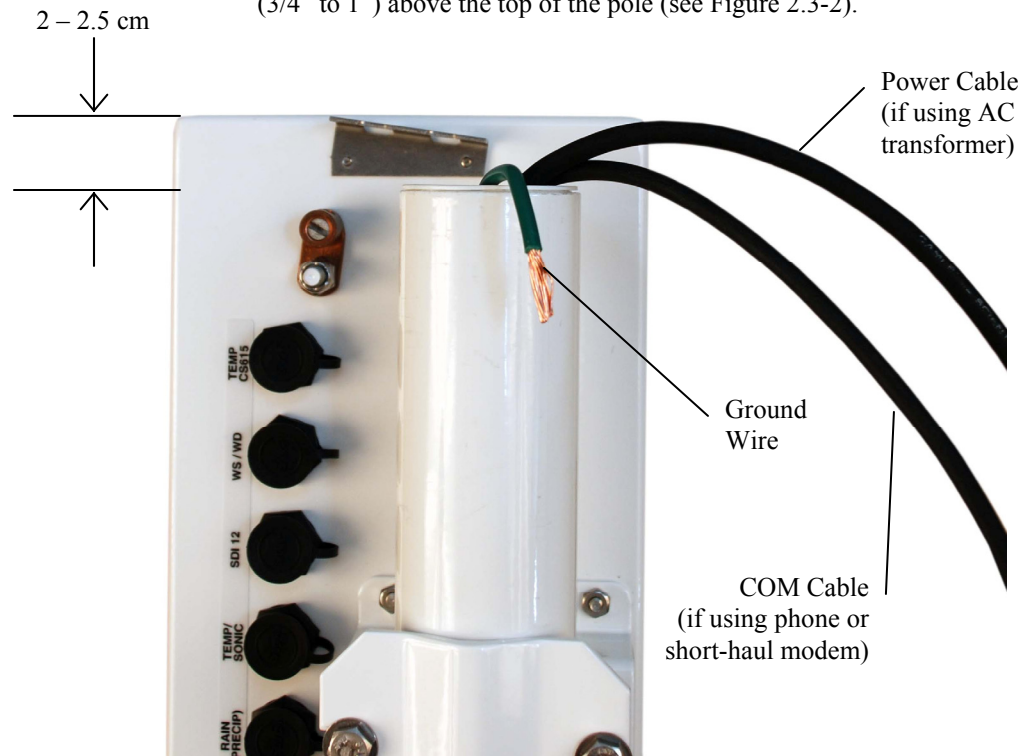

FIGURE 2.3-2. Enclosure Spacing Above Pole
1. Mount the ET enclosure on the ET Tower as shown in Figure 2.3-2.
- b. Loosen the mounting bracket bolts on the back of the enclosure wide enough to slide over the pole. Slide the enclosure over the pole. Position the enclosure so it faces east for northern latitudes or west for southern latitudes. The top of the enclosure should be 2 – 2.5 cm (3/4" to 1") above the top of the pole (see Figure 2.3-2).